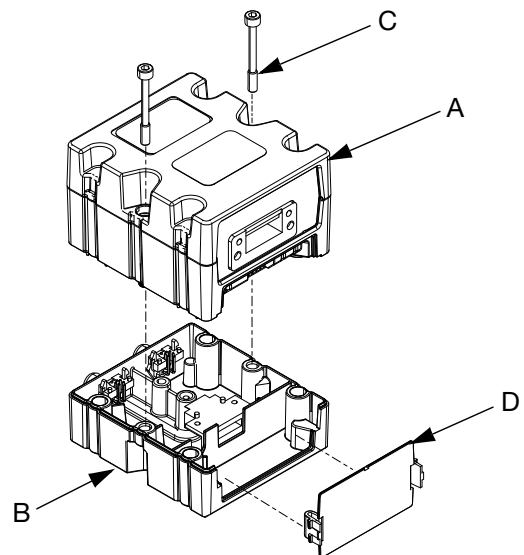

FIG. 48
1. Remove the access cover (D). Loosen the two screws (C) and remove the CGM from the base (B). See FIG. 48 .